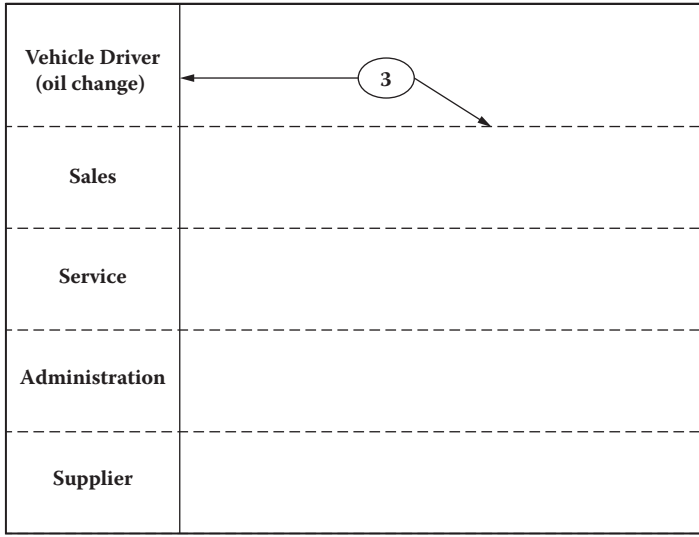

Figure A.13 Workspace with basic template swimlane diagram showing swimlane boundaries with labels and customer swimlane at the top.
- 3. Label the swimlanes starting with the customer (internal or external) from the top beginning with the entities closest to the customer (Figure A.13).